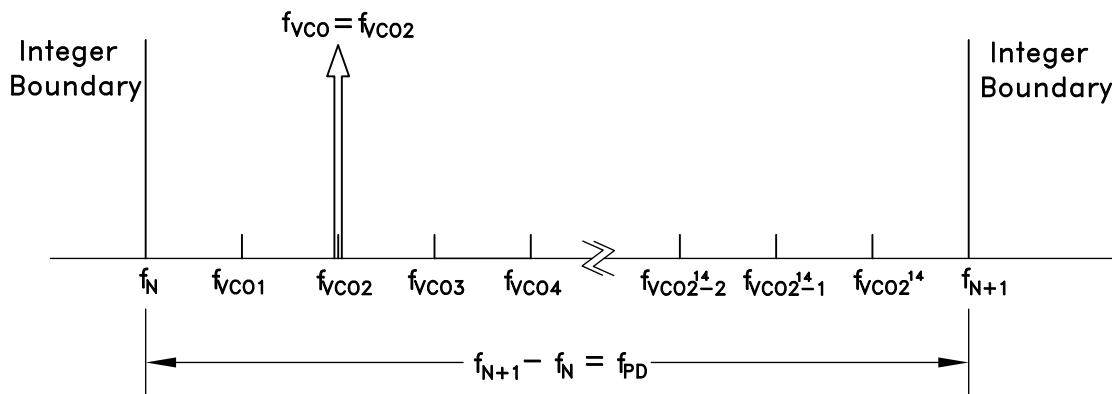

Figure 44. Exact Frequency Tuning
and f_{VCOk} are the channel step frequencies where $0 < k < 2^{24}-1$, As shown in Figure 44.
Some fractional PLLs are able to achieve this by adjusting (shortening) the length of the Phase Accumulator (the denominator or the modulus of the Delta-Sigma modulator) so that the Delta-Sigma modulator phase accumulator repeats at an exact period related to the interval frequency ($f_{VCOk} - f_{VCO(k-1)}$) in Figure 44. Consequently, the shortened accumulator results in more frequent repeating patterns and as a result often leads to spurious emissions at multiples of the repeating pattern period, or at harmonic frequencies of $f_{VCOk} - f_{VCO(k-1)}$. For example, in some applications, these intervals might represent the spacing between radio channels, and the spurious would occur at multiples of the channel spacing.
If it is desirable to have multiple, equally spaced, exact frequency channels that fall within the same interval (ie. $f_N \leq f_{VCOk} < f_{N+1}$) where f_{VCOk} is shown in Figure 44 and $1 \leq k \leq 2^{14}$, it is possible to maintain the same integer-N (Reg 03h) and exact frequency register (Reg 0Ch) settings and only update the fractional register (Reg 04h) setting. The Exact Frequency Channel Mode is possible if \(EQ 17\) is satisfied for at least two equally spaced adjacent frequency channels, i.e. the channel step size.
To configure the HMC834LP6GE for Exact Frequency Channel Mode, initially and only at the beginning, integer (Reg 03h) and exact frequency (Reg 0Ch) registers need to be programmed for the smallest f_{VCO} frequency (f_{VCO1} in Figure 44), as follows:
1. Calculate and program the integer register setting Reg 03h = $N_{INT} = \text{floor}(f_{VCO1}/f_{PD})$, where f_{VCO1} is shown in Figure 44 and corresponds to minimum channel VCO frequency. Then the lower integer boundary frequency is given by $f_N = N_{INT} \cdot f_{PD}$.
Reg 04h = $N_{FRAC} = \text{ceil}\left(\frac{2^{24}(f_{VCOk} - f_N)}{f_{PD}}\right)$ where $f_N = \text{floor}(f_{VCO1}/f_{PD})$, and f_{VCO1} , as shown in Figure 44, represents the smallest channel VCO frequency that is greater than f_N .
- To change from channel 1 ($f_{VCO1} = 2800.2$ MHz) to channel 2 ($f_{VCO2} = 2800.3$ MHz), only Reg 04h needs to be programmed, as long as all of the desired exact frequencies f_{VCOk} (Figure 44) fall between the same integer-N boundaries ($f_N < f_{VCOk} < f_{N+1}$). In that case